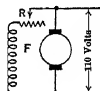

Fig. 79. Diagram showing use of rheostat to control field current of a generator or a motor.
**Prob. 45-3.** In adjusting the speed of a certain motor, Fig. 79, it becomes necessary to vary the resistance of rheostat  $R$  from 23 ohms to 70 ohms continuously without breaking the field circuit. What arrangement of the three resistors of Prob. 44-3 would you use if this is possible?